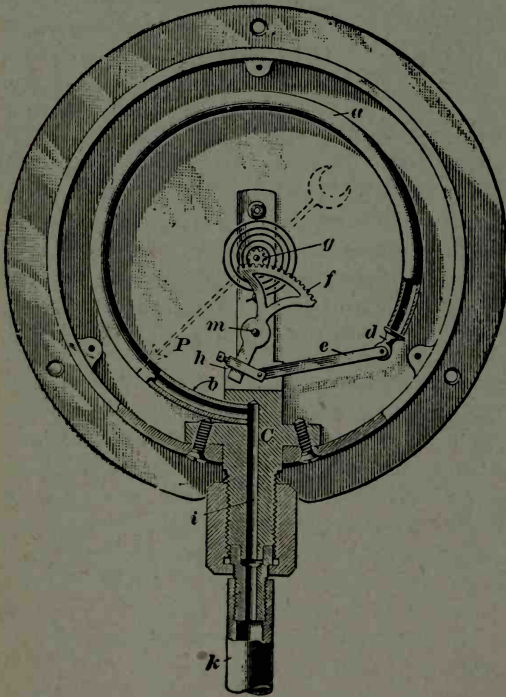

Fig. 50. Steam Gauge
**Description of a Steam Gauge.**—Locomotive steam gauges are usually of the Bourdon type, as shown in Fig. 50. The essential parts are a brass or copper tube *a* of elliptical section bent in the form of a horseshoe